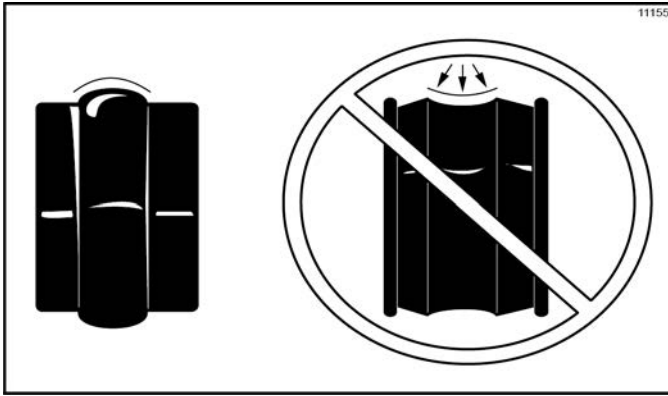

Figure 6-19
**Note:** To ensure the mix does not leak from the back of the freezing cylinder, the middle section of the boot seal should be convex or extend from the seal. If the middle section of the boot seal is concave or extending into the middle of the seal, turn the seal inside out. (See Figure 6-19.)